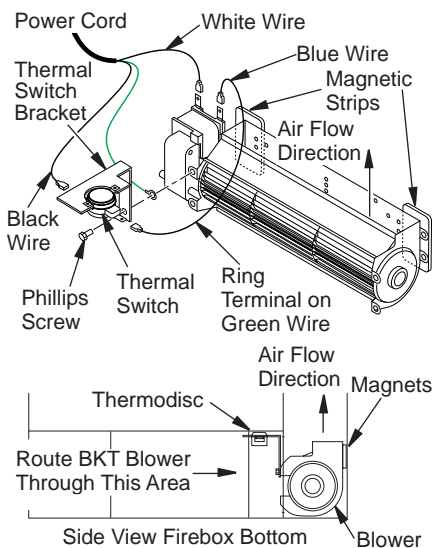
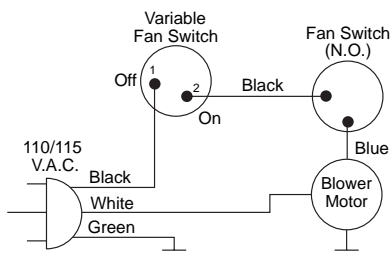

Figure 28 - Blower Model BKT
Figure 29 - Blower Wiring Diagram for Thermostat-Controlled Models
1. Place green ground wire with ring terminal between bottom hole on thermal switch bracket and top ear hole on blower assembly. Insert phillips screw into all three pieces and tighten securely (see Figure 28).
3. Place blower against lower rear wall of firebox outer wrapper with exhaust port directed upward and thermodisc positioned up near fireplace bottom. Thermodisc must be oriented near fireplace bottom as shown in Figure 29 in order to sense temperature and properly operate. Blower will be held in position against back wall by magnets incorporated onto blower housing (see Figure 28).